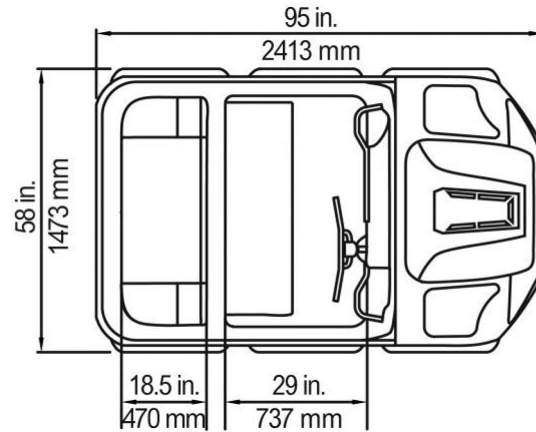

Figure 1: Blueprint TOP
1. Get the blueprints of the robot model that you want to create. Blueprints help a great deal in CAD development. They allow us to be approximate about the dimensions while keeping the relative orientation and positions of several parts and subparts. Example blueprints are shown in the Fig 1 and 2.